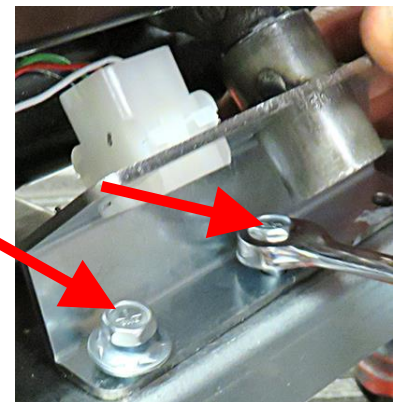

Figure 77
77. Attach the dispose outlet assembly using ¼"-20 self tapping bolts (see Figure 77).